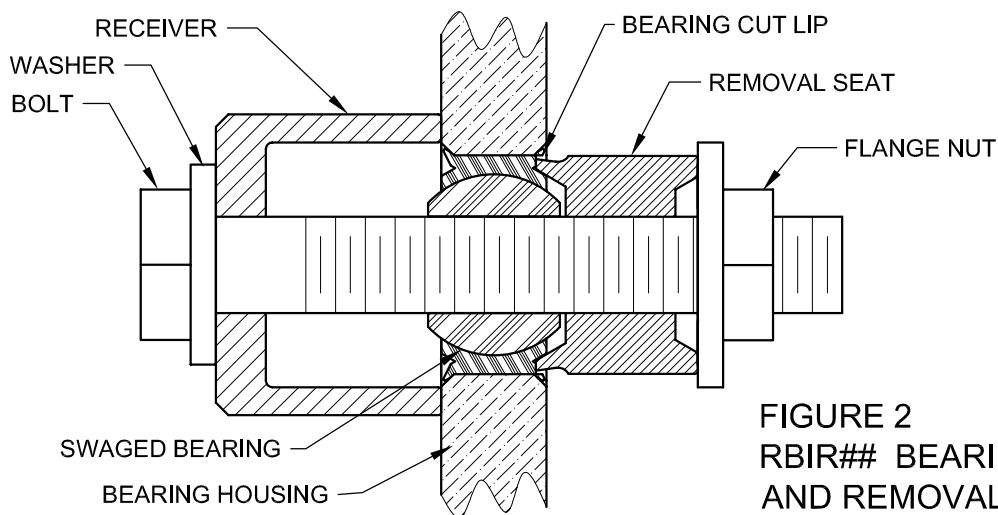

FIGURE 2
6. Press bearing out of the housing with the Removal part of Tool per figure 2. Discard old Bearing; it can not be used again.